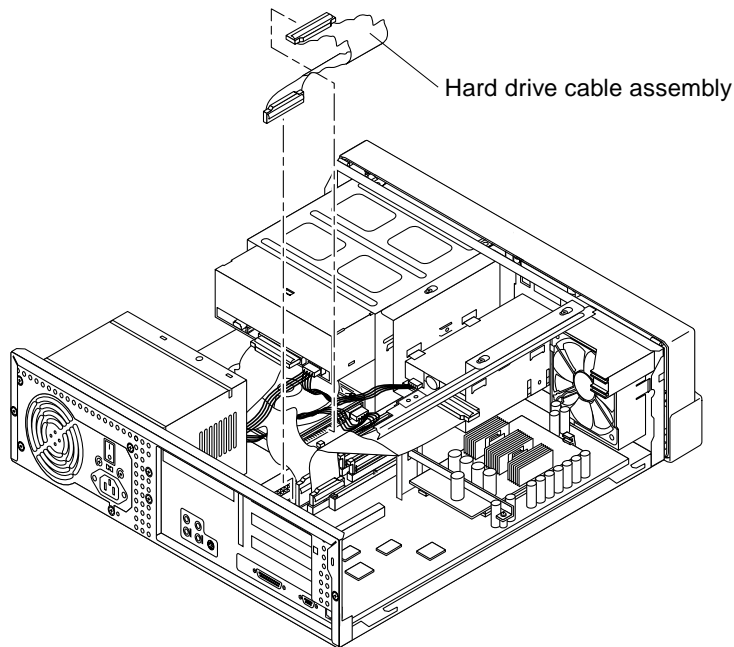

FIGURE 6-3 Removing and Replacing the Hard Drive Cable Assembly
2. Disconnect the hard drive cable assembly connectors from the following (FIGURE 6-3):
1. **Replace the hard drive cable assembly as follows (FIGURE 6-3):**